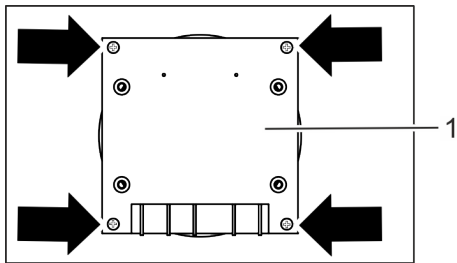

Fig. 3: Assembling the actuator (receiver)
1. Insert the actuator (receiver) (Fig. 3/1) in the mounting plate on the boiler.
2. Tighten the four screws on the actuator (receiver) (Fig. 3).